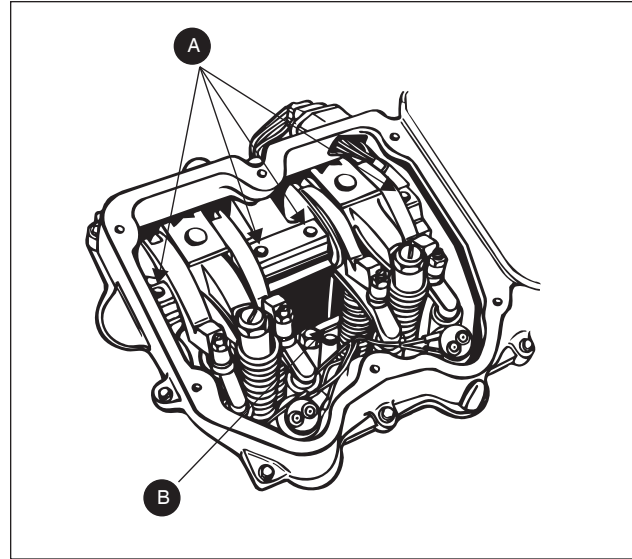

FIG. 4
1. Remove four (4) Caterpillar rocker shaft bolts.
2. Attach a suitable length of tubing to a blow gun nozzle. Blow the oil out of the hold-down bolt holes (A) and mounting stud locations (B) (see Fig 4). While blowing the oil out, cover the bolt holes with a clean towel to prevent oil from spraying.